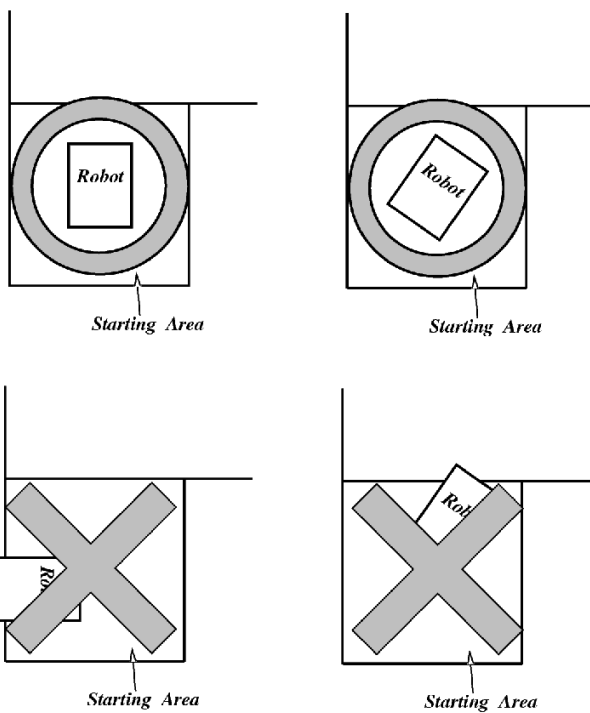

Fig 6: Starting position of the Robot
- (2) The robot must be placed inside the starting area. The robot’s initial condition can be chosen as the competitor pleases. It can be set to any direction, refer to Fig. 6. Cables [8] or other peripherals